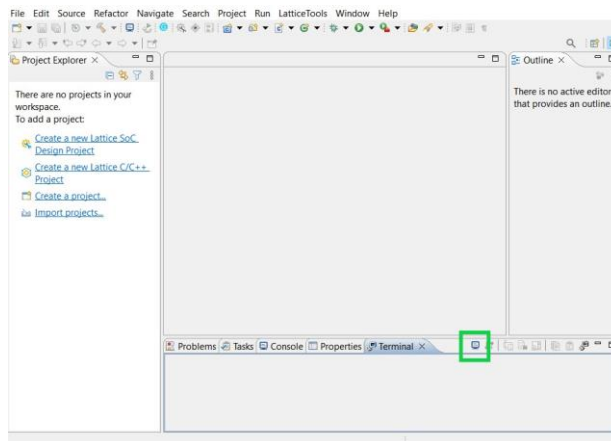

Figure 4.1. Open Terminal
4. Double-click the terminal button as shown in Figure 4.1.